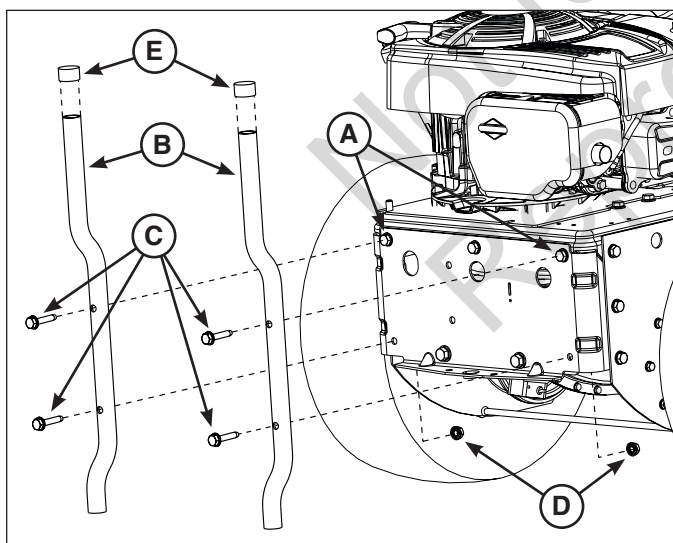

Figure 1
1. Remove the two self-threading bolts (A, Figure 1) from the rear of the rider. Store in a safe place for future use.
2. Attach each of the supplied bumpers (B) to the rear of the rider as shown with two 5/16 x 1-1/2 bolts (C). Secure the bottom bolt with a 5/16 flange nut (D). (The top hole is threaded and requires no nut.)
3. Install a bumper cap (E) onto the top of each of the bumpers.